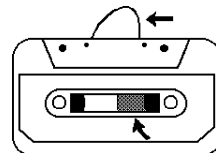
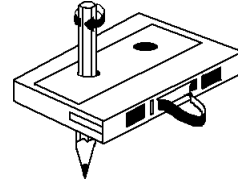

Fig.1
Fig.2
- Check that there are no loose layers of tape visible through the cassette center window (see Fig. 1). Take up any loose layers, using a pencil or hexagonal barrelled ballpoint pen, before inserting the cassette into the machine (see Fig. 2).
- If the cassette feels “tight” while performing operation shown (see Fig. 2), the tape may be jamming due to “ridges” formed in the winding of the tape. (visible through the center window). These may be removed, in most cases, by fast winding of the cassette from one end to the other and back again.